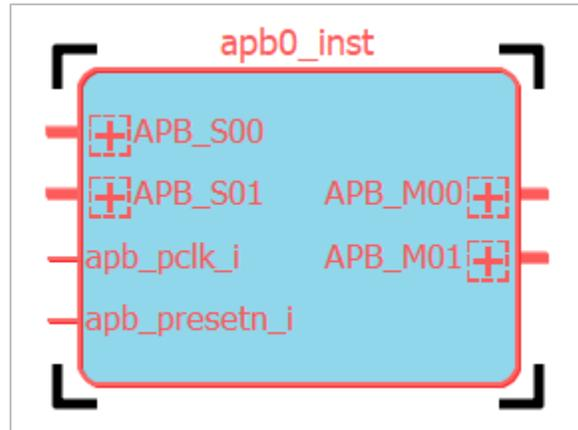

Figure 2.46. Select Module
1. Select the desired module block. The block is highlighted in red with black corners (Figure 2.46).